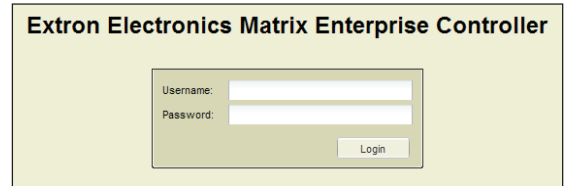

Figure 3. Enterprise Controller Login Page
2. Open a web browser on the control PC and enter the IP address of the VNM Enterprise Controller 201 in the address bar (for example, *http://192.168.254.254*). The login screen opens (see figure 3).